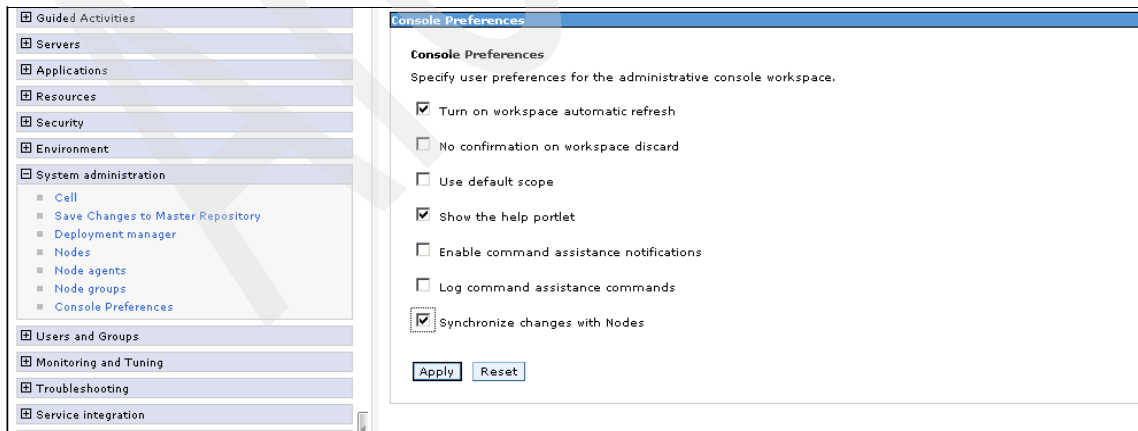

Figure A-19 Synchronize changes with nodes
2. Select **System administration** → **Console preferences**. Select the **Synchronize changes with Nodes** option, and then click **Apply** (see Figure A-19).